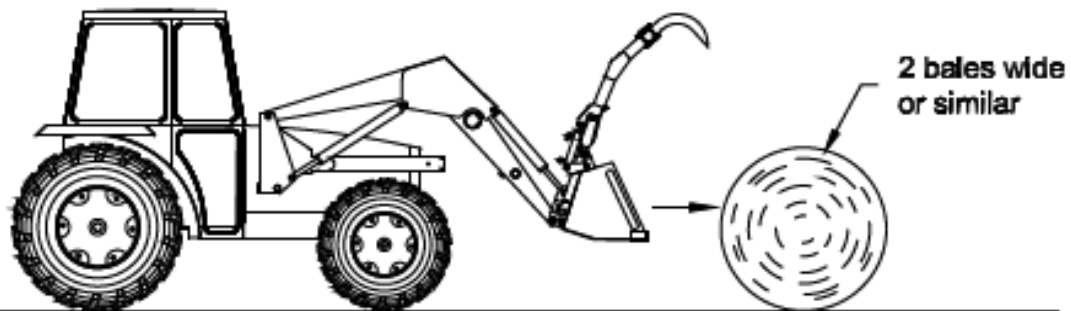

Figure 1
1. With grapple open, approach two bales placed end to end (Figure 1).